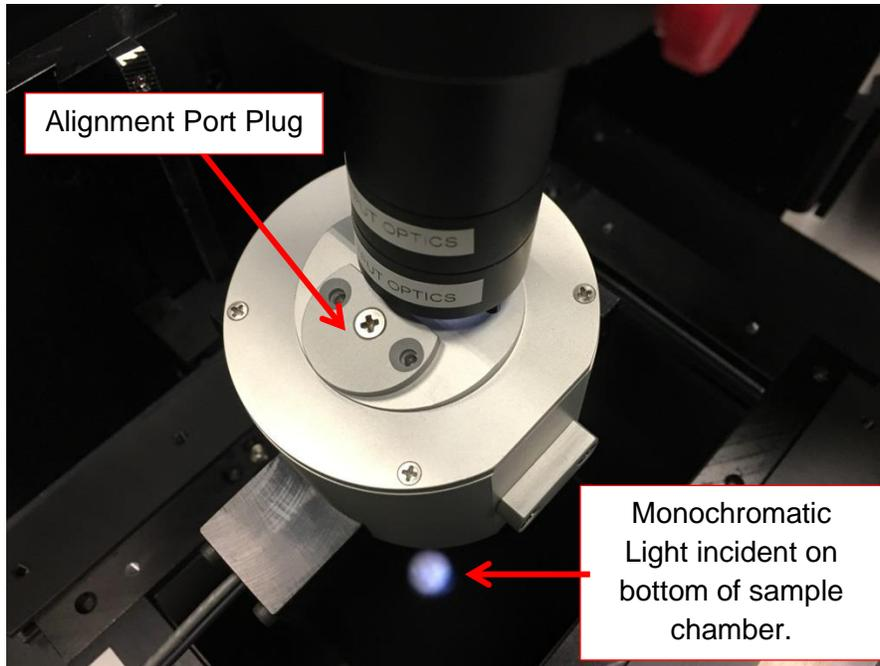

Figure 34: Add port plug and remove sample tray for dark measurement.
A dark measurement is performed with the light source ON but with no sample or sample tray in place, see Figure 34. This measurement is used to account for the background signal level that is measured by the detector inside the integrating sphere that is NOT reflected by the sample. The dark measurement is the signal level measured with zero reflectance (no sample).
2. Now that the integrating sphere is now setup and aligned. To perform a dark measurement, remove the integrating sphere sample tray completely and allow the monochromatic light to hit the bottom of the PTS sample chamber (see Figure 34). Ensure there are no foreign objects that the monochromatic light is incident upon that may cause reflections.